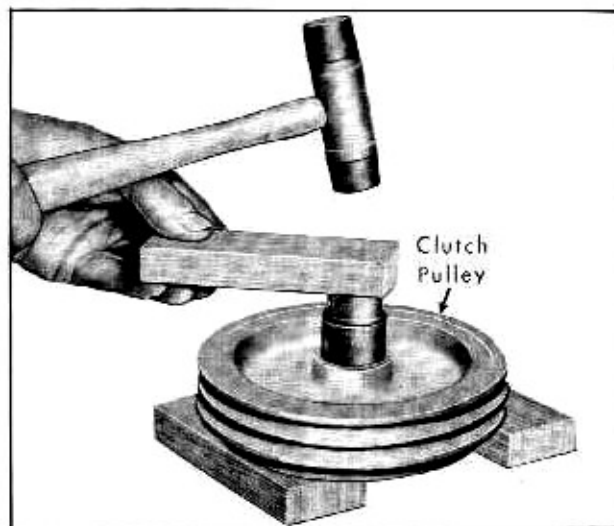

Fig. 16-A-9 Removing Pulley Bearing
1. Energize clutch coil from a 12 volt battery and check clearance between clutch plate armature (not rear pulley cover ring) and coil housing at three different positions. Fig. 16-A-10. This clearance should be between .025" and .035".